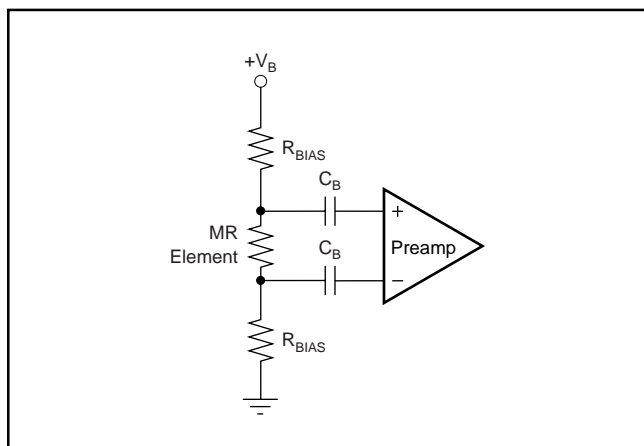

FIGURE 2. Typical MR Head Interface.
The MPA4609 is designed to detect and amplify the voltage signal from a Magneto Resistive (MR) head with minimal SNR degradation from the SNR intrinsic to the head. A typical MR head interface is shown in Figure 2. Not considering any postfiltering, the amplifier's 0.65nV/ $\sqrt{\text{Hz}}$ input noise voltage and 90MHz bandwidth combine to produce a very low 7.7 μ V_{RMS} input referred noise floor. Even with a conservative 20dB S/N margin, input signals as low as 77 μ V_{PP} may be detected. With a maximum differential output of 3V_{PP} and a 190V/V gain, a maximum input of 15.7mV_{PP} may be applied. This wide range of inputs translates into 46dB input dynamic range. Since the MR head is biased through external voltages, it is often required to connect the signal through series blocking capacitors as shown in Figure 2. The high-pass pole created by these capacitors (C_B) and the source resistance are selected to pass the lowest frequencies required by the system.